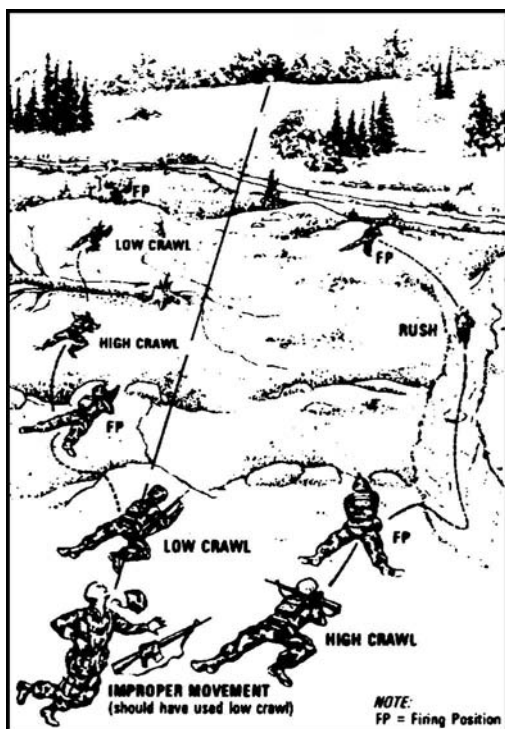

Figure 071-326-0502-1. Individual movement route
1. Select an individual movement route within your team, or squad route or axis of advance (figure 071-326-0502-1).